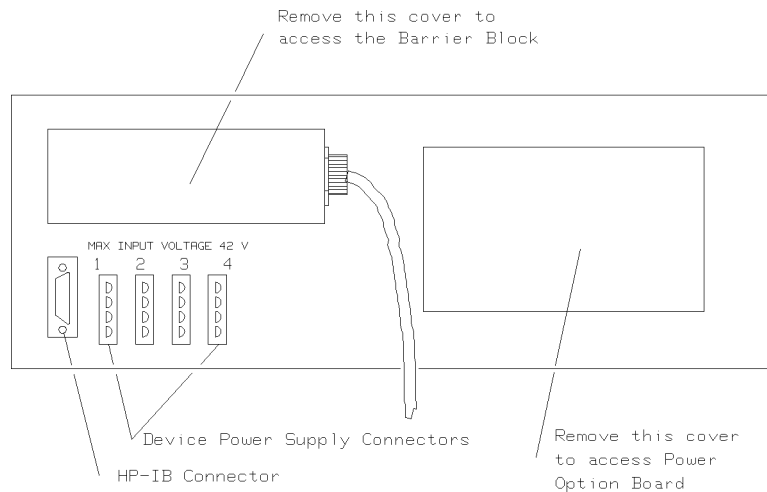

Figure 6-14. Miniframe - Rear View.
Figure 6-14 shows the Miniframe rear view.
1. Refer to Figure 6-14: Remove the access cover to the power option board (2 screws).